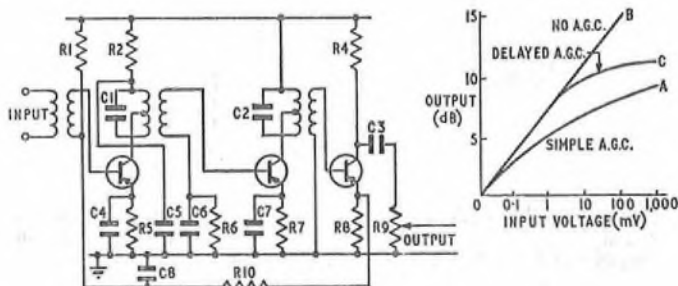

Fig. 2 (a)
- (d) List the components in the circuit shown in Fig. 2 which contribute to the a.g.c. action, and indicate the function of each. How does this circuit compensate for a change in input-signal level?